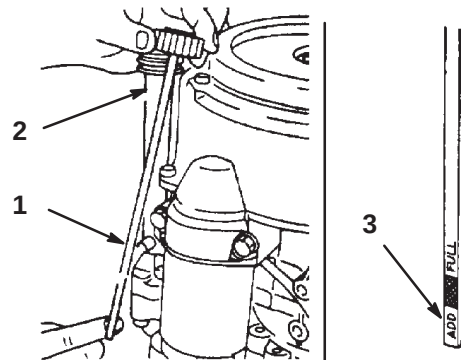

Figure 40
2. Clean around the oil dipstick (Fig. 40) so dirt cannot fall into the filler hole and damage the engine.
3. Unscrew the oil dipstick and wipe the end clean (Fig. 40).
4. Slide the oil dipstick fully into the filler tube, do not thread onto tube (Fig. 40). Pull the dipstick out and look at the end. If oil level is low, slowly pour only enough oil into the filler tube to raise the level to the full mark.
6. Slowly pour approximately 80% of the specified oil into the filler cap (Fig. 40). Refer to Servicing the Engine Oil, page 35.